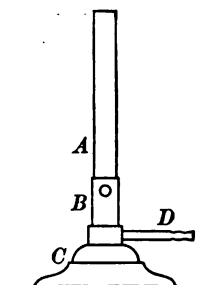

FIG. 1
1. **The Bunsen burner.** *a.* The Bunsen burner is the common form of apparatus used in laboratory operations where heat is applied. It consists of the tube *A* (Fig. 1), screwed into the base *C*. The tube has two small round holes near its lower part. A band *B*, provided with similar holes, fits around the lower part of the tube in such a way that the holes in the tube may be closed or opened by turning the band. Gas is admitted to the burner through *D* by means of rubber tubing. Unscrew the tube and examine the different parts of the burner; then put them together again and light the gas by holding a lighted match 4 or 5 cm. above the tube and turning on the gas. The gas should be adjusted so as to give a flame about 10 cm. high. The gas entering the burner mixes with air drawn in through the holes in the lower part of the tube and burns with an almost nonluminous flame. If the band is adjusted so as to close the openings, the flame becomes luminous. Always use the nonluminous flame unless otherwise directed.